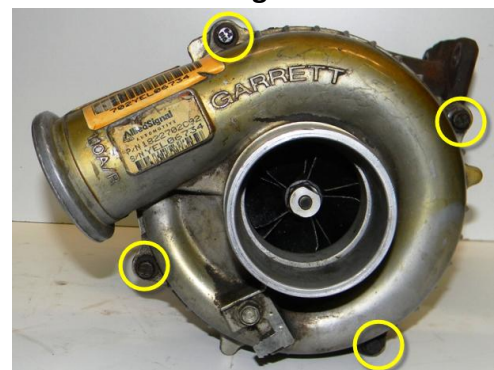
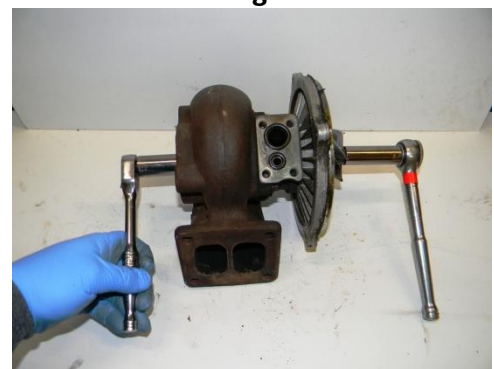

Fig 2
Fig 3
- 3) Remove the (4) compressor housing bolts using an 8mm socket or wrench. Once the bolts are removed, you can remove the compressor housing from the back plate. It may be sealed on so take your time working it loose. You need to be careful so you do not damage the compressor wheel. (Fig 2)
- 4) Remove the Exhaust Back Pressure Valve (EBPV) from the turbine housing by removing the (3) bolts with an 8mm socket or wrench.
- 5) Remove the compressor wheel using a 16mm socket on the compressor wheel and an 18mm socket on the turbine wheel. Once loose, the compressor wheel should spin off freely. (Fig 3)
- 27) Install the (4) bolts to the housing and torque to 12 ft-lbs using a criss-cross pattern. Make sure the compressor wheel turns freely after torquing. (Fig 2)
- 28) Install the EBPV onto the turbine housing and install the (3) bolts using Loctite®. Torque the bolts to 30 ft-lbs.